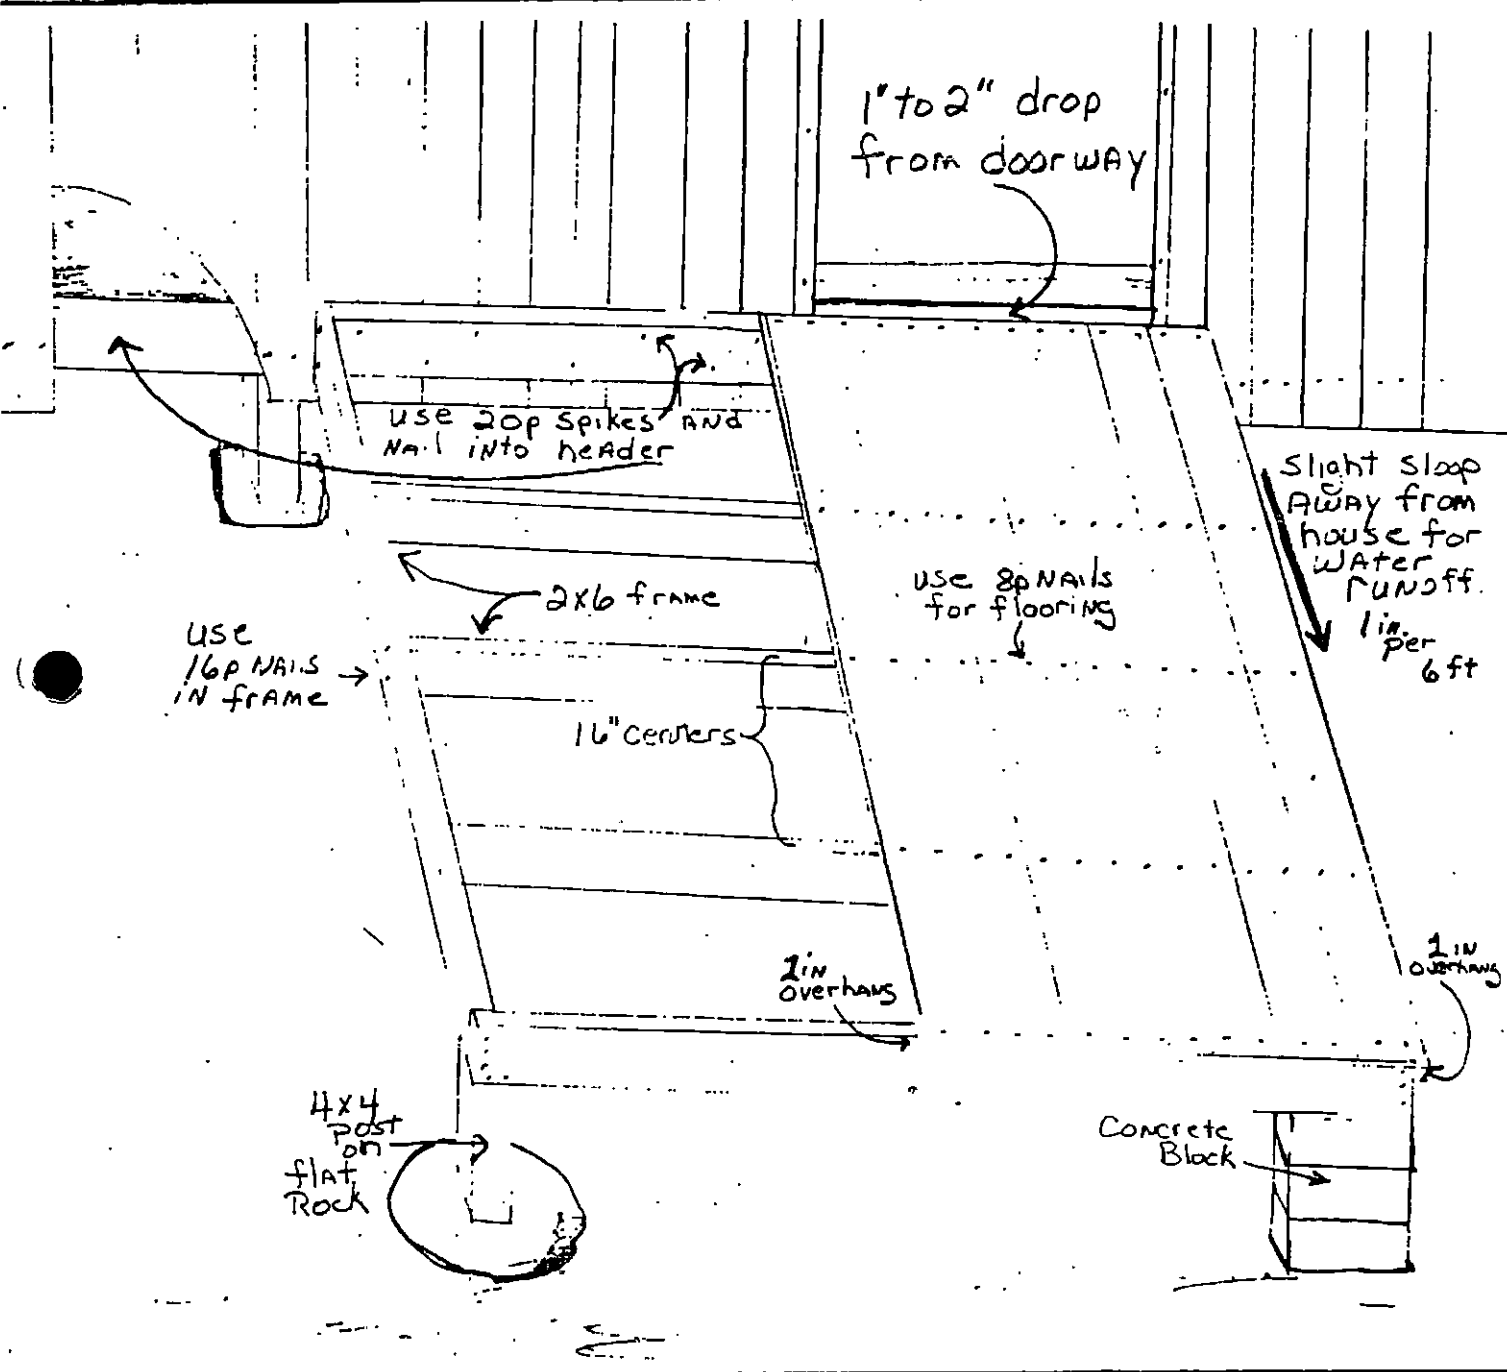

FIGURE 70
- Nail flooring perpendicular to the house and leave a 1 to 2 inch overhang on the three outside edges to protect outer joists. Rough cut 1X planking is best for our use; and should be used where possible. (In the event finished lumber is used, either place joists on 10" or 12" centers or use subfloor under regular flooring to strengthen floor.) (See Fig. 70)